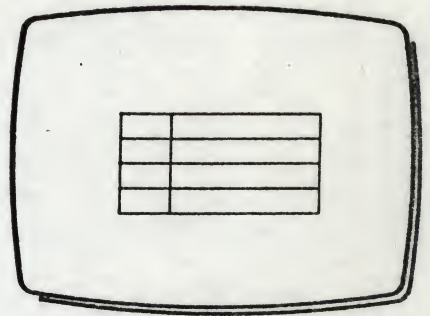

Fig 2
- 3 Press T to confirm the selected unit. The unit is displayed at its original size and rotation (Fig 2). All other Work Page entries have been erased, hence the need to FILE the original composite drawing.